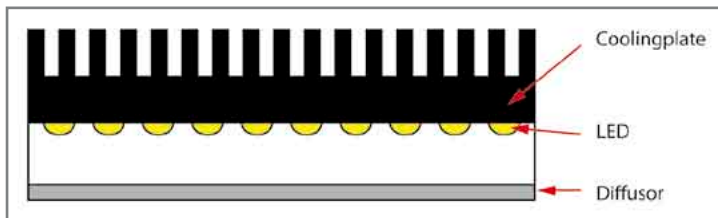

Figure 2: Section LED with diffusers and lenses
- Solutions using few High Performance Power-LEDs with diffuser and lenses (Figure 2):